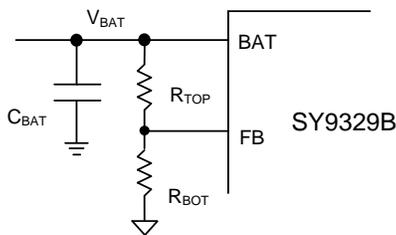

Figure3. Schematic of V_{BAT} under Sink Mode
Under sink mode, the VBUS pin is connected to the power input, the BAT pin is the power output and the FB pin is the feedback input. The output voltage V_{BAT} is programmed by external voltage divider (see Figure3) with the 1V internal voltage reference as given in equation (1).